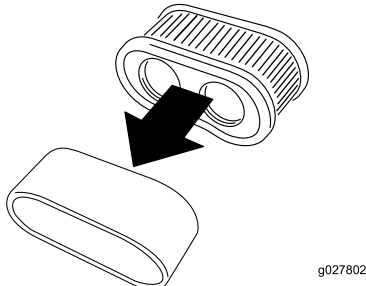

Figure 40
5. Separate the foam and paper elements (Figure 40).